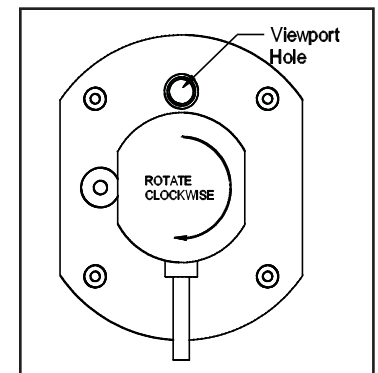

Figure 10
8. Press the ballast against the mounting base. Rotate the ballast assembly clockwise until it stops and is locked in place. (See Figure 10)